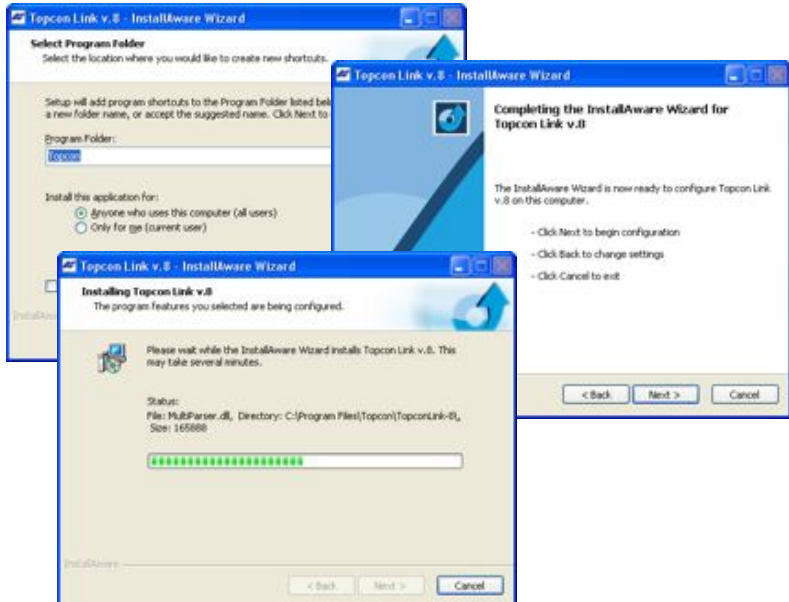

Figure 1-4. Select Program Folder and Installation Progress
4. If desired, type in a new folder in which to add program icons. For automatically creating Topcon Link shortcut check the ‘*Create on Desktop*’ box. Then click **Next** (Figure 1-4).
5. Click **Next** to start the installation process (Figure 1-4)
6. Topcon Link is installed on the computer (Figure 1-4)